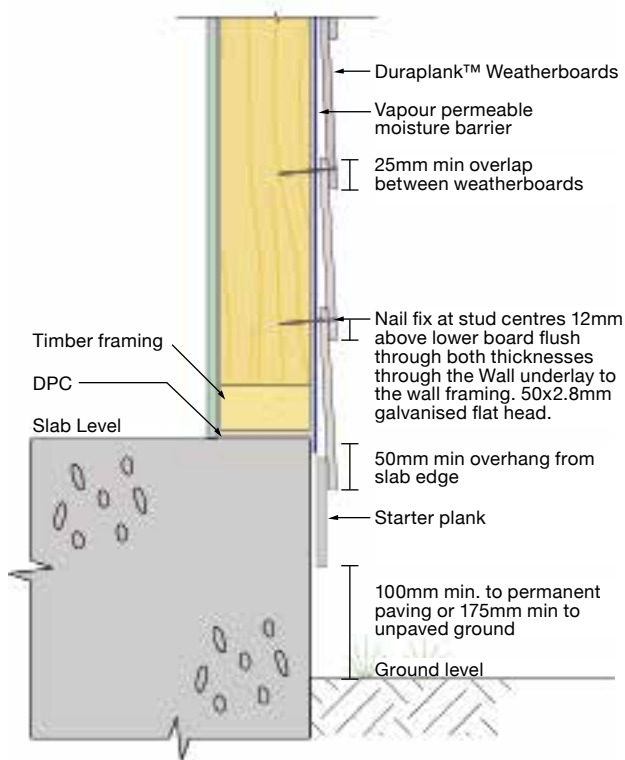

FIGURE 7 //
- The plank must overlap a minimum of 25mm, and before fixing the second row of planks calculate the overlap so a near full width of plank will finish at the top of the building. Using a piece of timber or plank, fabricate a lap gauge to ensure that the plank coverage is uniform. See figure 7.